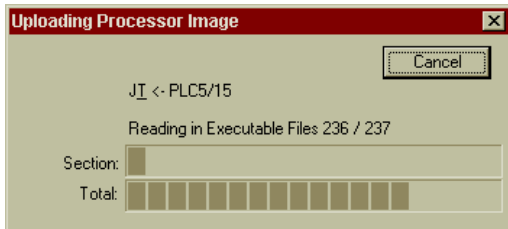
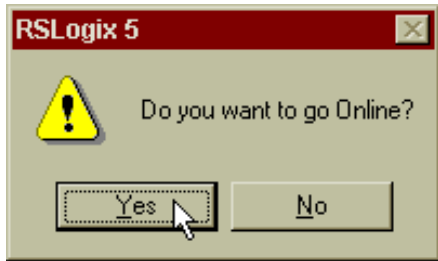

FIG. 4-4 UPLOADING PROCESSOR IMAGE
FIG. 4-5 PROMPT TO GO ONLINE
- Step 4. Click on the “Upload Logic, Merge with Existing” button. The Uploading Processor Image display appears. (See Fig. 4-4) Then a prompt appears asking if you want to go online. (See Fig. 4-5)